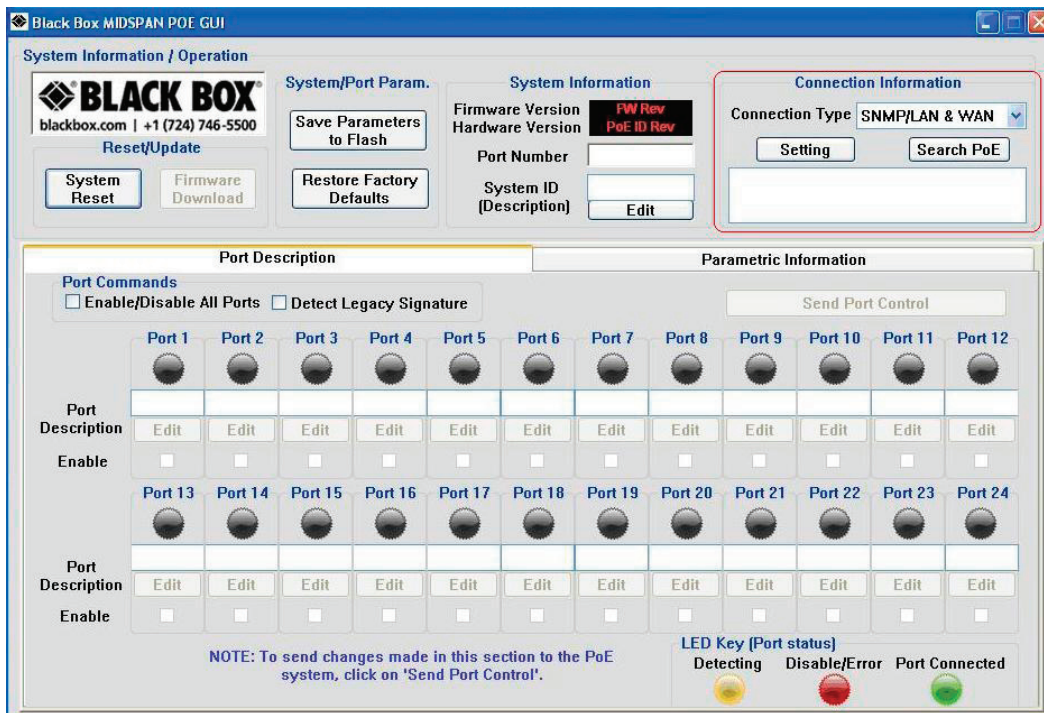

Figure 5-1. GUI main window.
Step 1: Choose the connection type. See Figure 5-1.